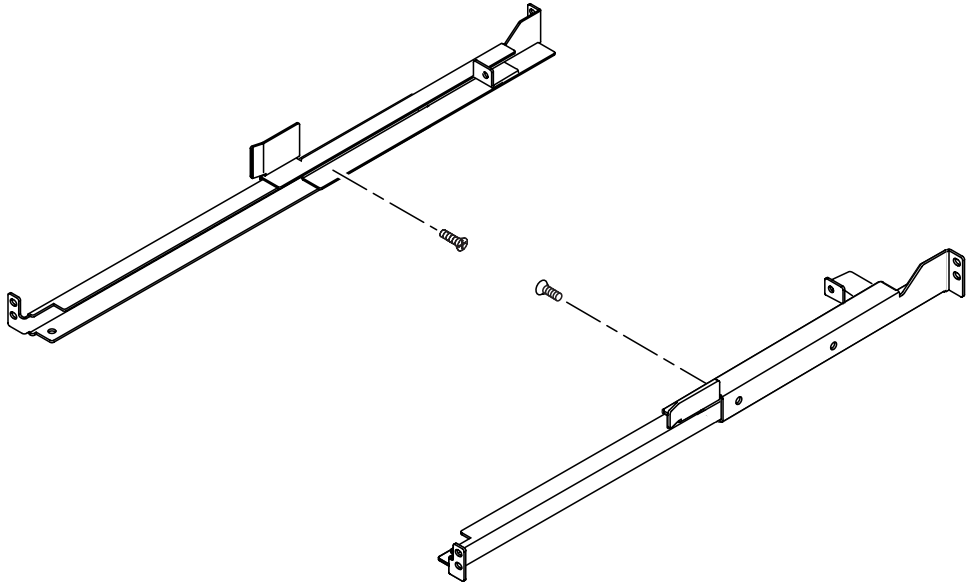

FIGURE 3 Unfastening Mounting Rails
3. Unfasten the mounting rails (FIGURE 3).